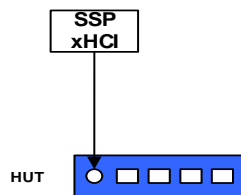

Figure 3-10: Hub Only Topology
- Configure the Hub Under Test as shown in Figure 3-10 and attach it to an SSP xHCI port.